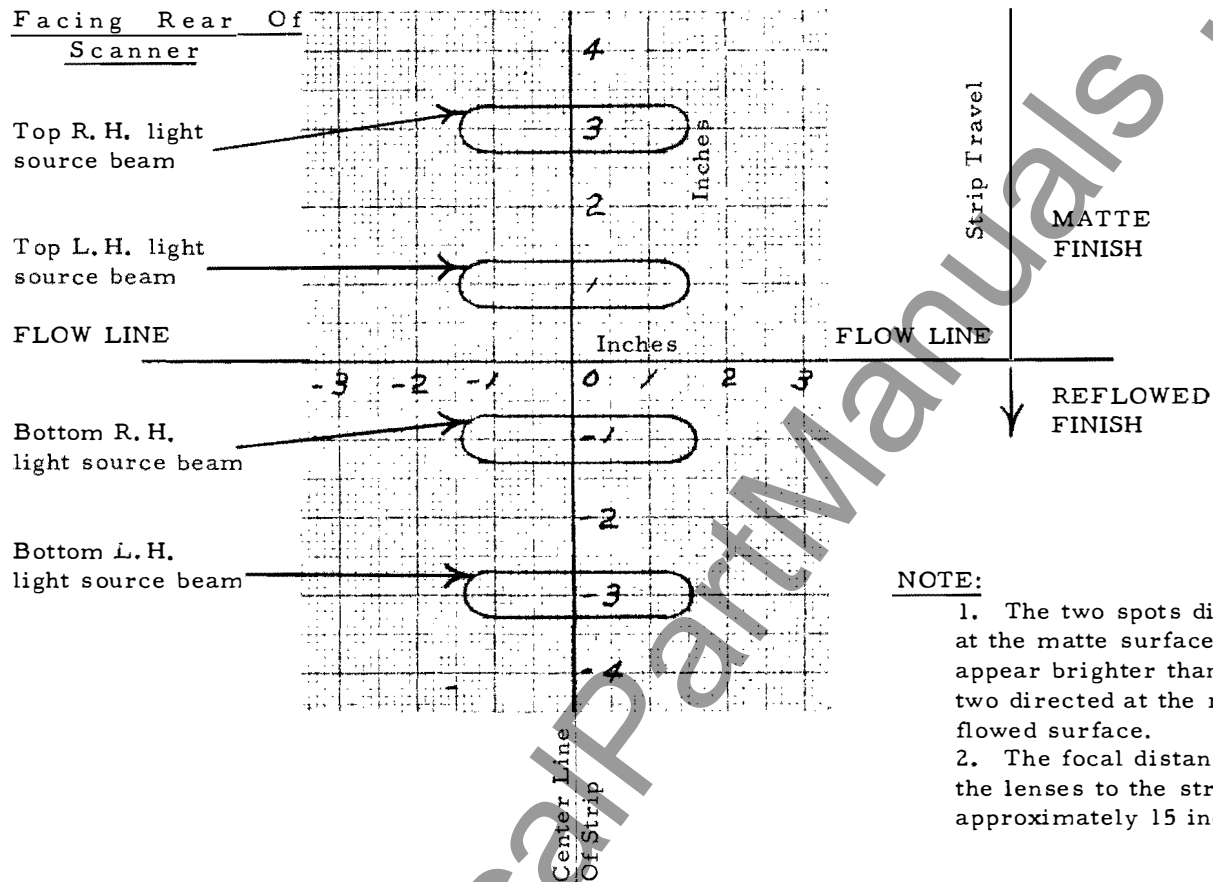

Figure 3 - Light Spot Focusing and Positioning
When this initial positioning of the scanner unit is completed, the position of the projected light spots should be adjusted. It will be noted that there are four light sources, each of which must be adjusted to provide a light spot of the proper size, and properly positioned on the strip. Figure 3 shows how these spots should be positioned and their recommended size. It is recommended that the light sources on one side of the scanner be adjusted with the light from the other side blocked off. In this way, only two light spots need be contended with at a time, one above the flow line and one below it.
There are three adjustments necessary to produce a light spot as indicated in Figure 3.
- b) Rotate knurled knob "B" until the light spot is directed at center of the strip, as indicated in Figure 3. A clockwise rotation moves the spot to the right, and a counterclockwise rotation moves it to the left.
- b) Adjust the vertical position of the light spot to correspond to that indicated in Figure 3. A clockwise rotation of knurled knob "D" moves the spot down, and a counterclockwise rotation moves it up.